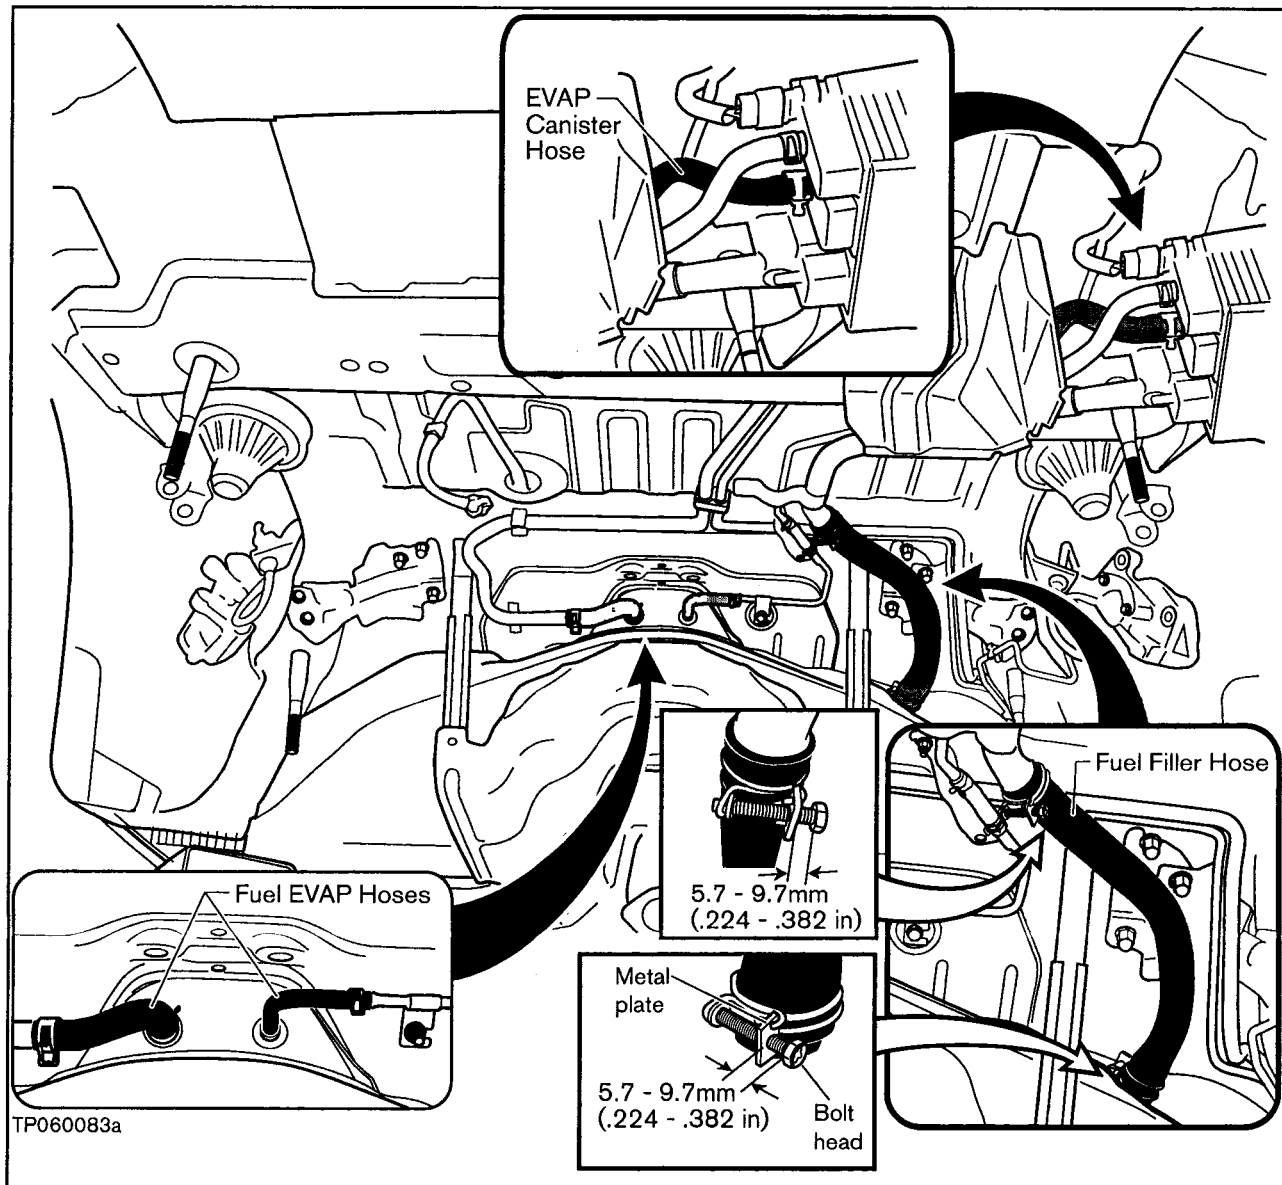

Figure 36
38. Remove and replace the four fuel hoses (provided in the kit). See Figure 36.
- Tighten the fuel filler hose clamps so that the distance between the bolt head and metal plate is set to the proper dimension (see Figure 36).